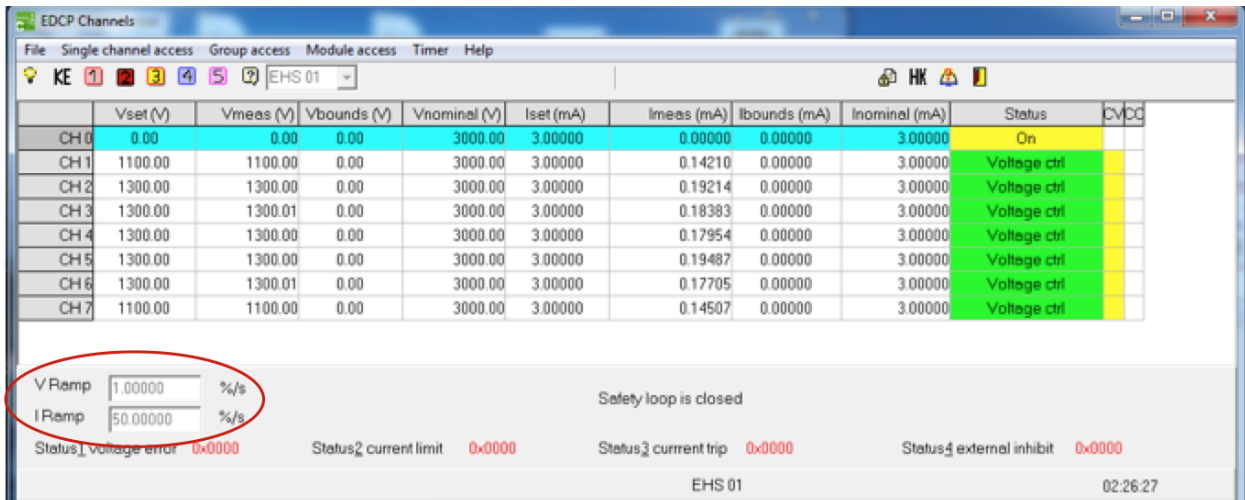

Figure 27. **EHS/EHQ 01** iSEG Multi-Channel High-Voltage Module Screen. **VRamp** and **IRamp** fields are circled in red.
11. Select **EHS01/ESQ01** (Figure 27).
- c. If the ramping up doesn't start automatically, set up voltage values (**Vset (V)**) for each channel.